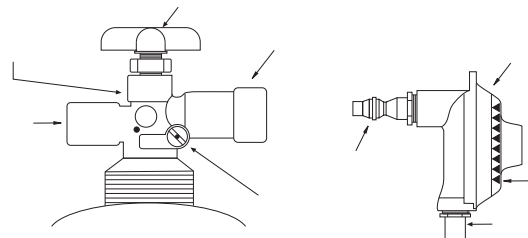

Figure 2B Type II Quick Disconnect Coupler
- g. Your propane gas cylinder may be equipped with a Type II Quick Disconnect (plug-in) Coupler (Figure 2B). An approved regulator/hose assembly for this type of coupling is available through your dealer from R.H. Peterson Co.